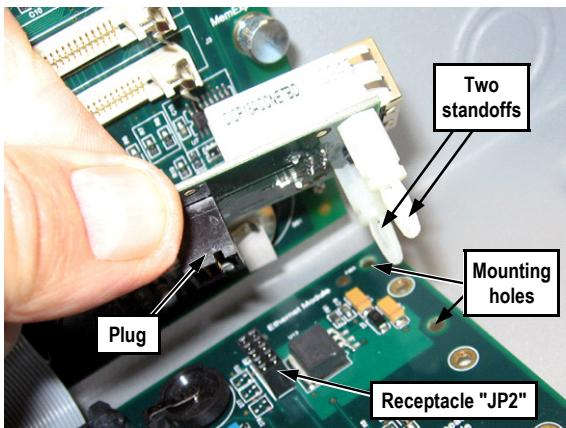

Fig. 11: Align the two snap-lock standoffs and plug with the Accelerterm Interface board holes and receptacle "JP2".
- Align the board:** The Ethernet board is mounted in the top right corner of the Accelerterm Interface board. See Fig. 11. Carefully align the two Ethernet board snap-lock standoffs with the two Interface PC board mounting holes. Then align the Ethernet board plug with the Interface board receptacle "JP2" as shown below.